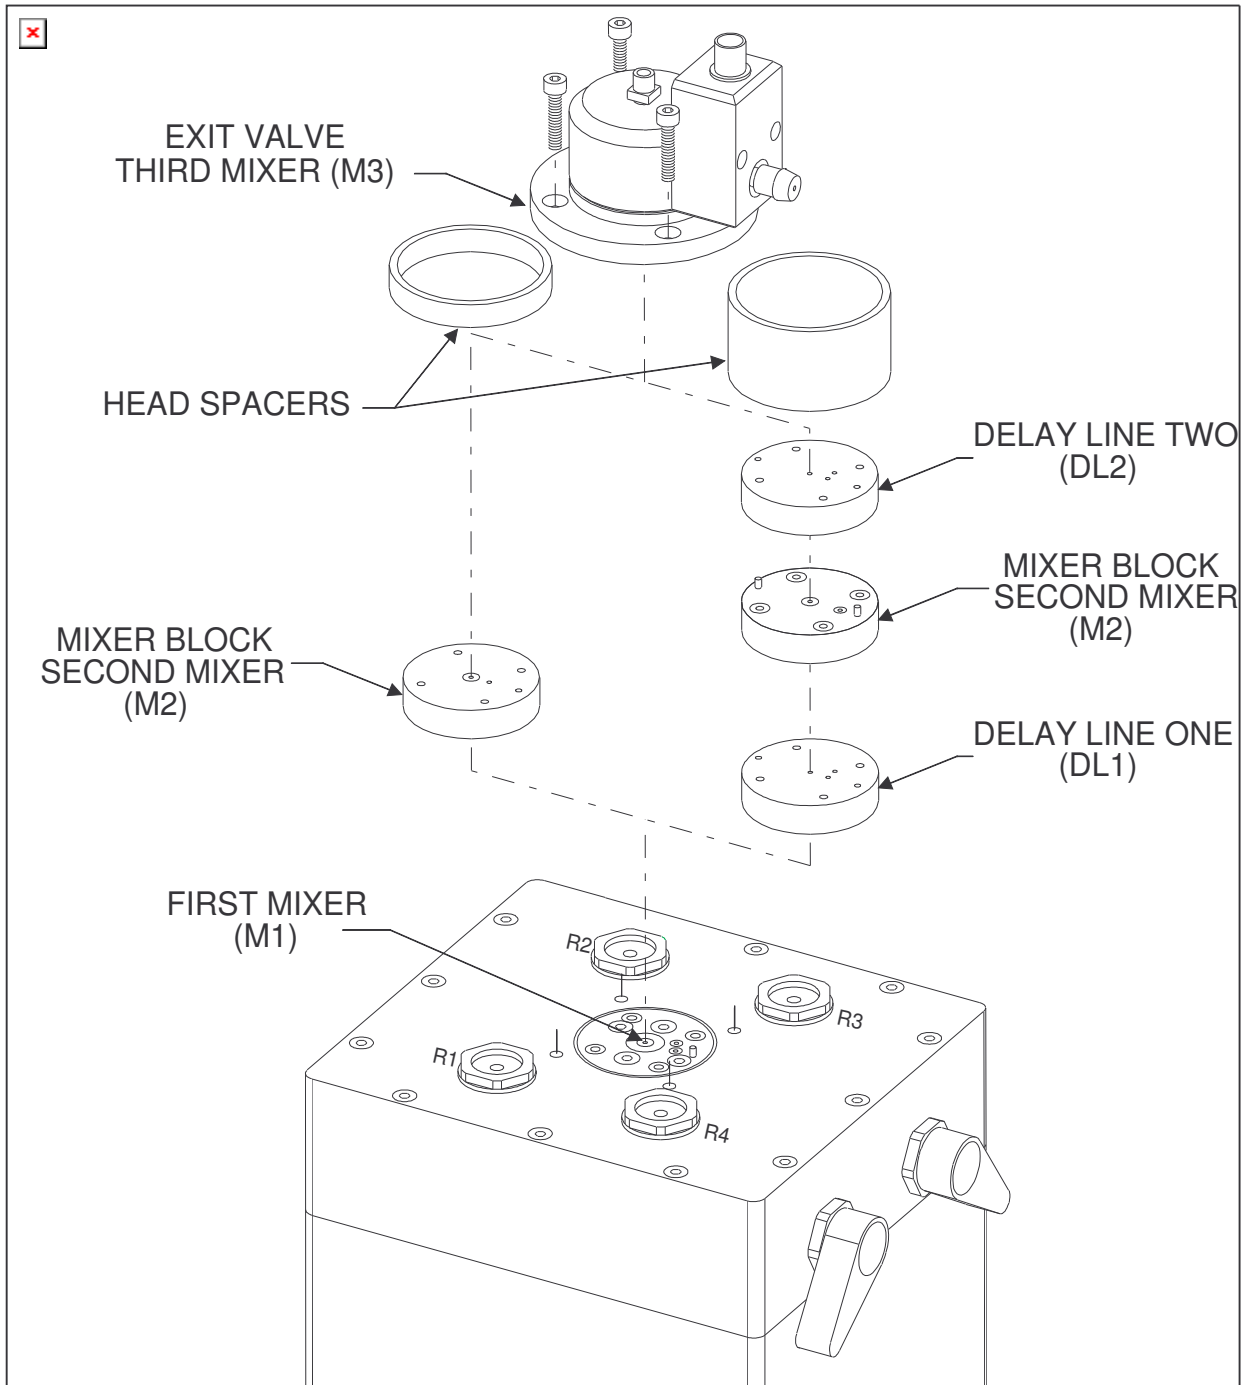

Figure 81 – SFM-400: Installation of Exit Valve, Mixer Blocks and Delay Lines
**SFM-400** - The exit valve and delay line(s) are installed as shown in Figure 81. The exit may be installed using the mixing blocks labeled **0-MIX-0**, **0-MIX-DL**, **DL-MIX-0**, **DL-MIX-DL** or no mixing block. The installation of the different mixing blocks is described in Table7.